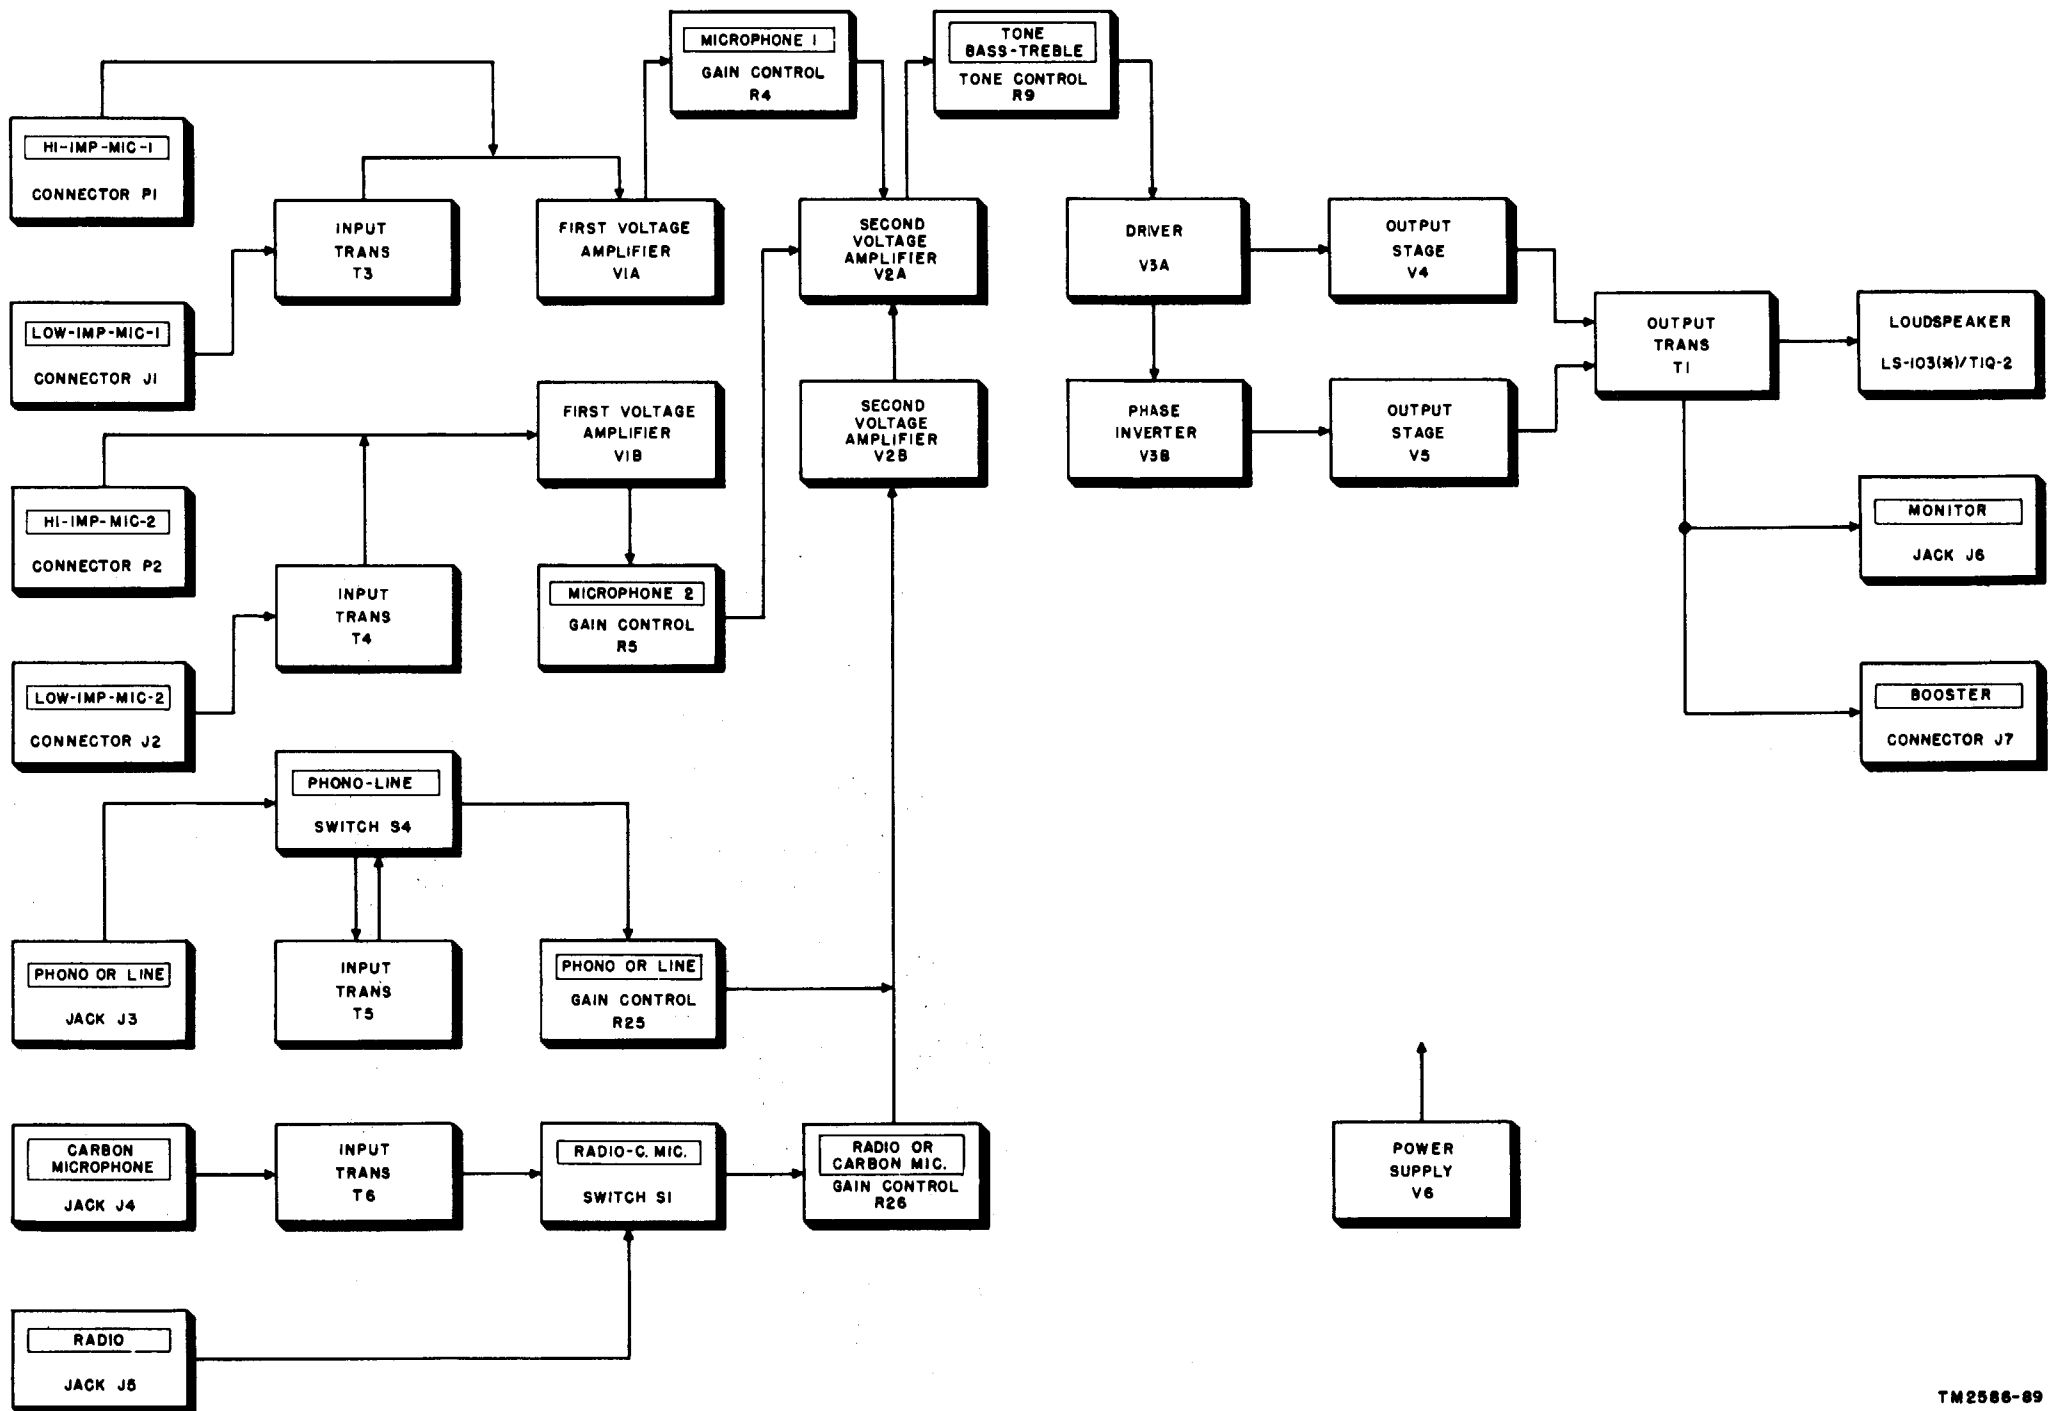

Figure 31. Amplifier AM-20(\*)/TIQ-2, block diagram.
d. The block diagram in figure 31 shows the various circuit stages and the positions they occupy in the amplifier.